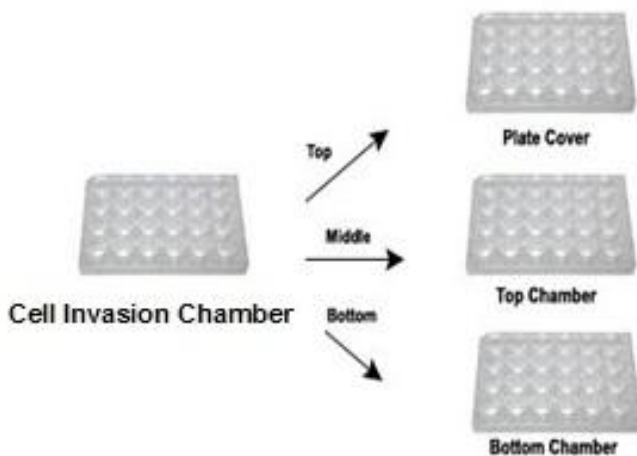

Figure 1. Cell Invasion plate: The cells are added to the Top Chamber and the Control Invasion Inducer or chemoattractant are added to the Bottom Chamber.
6. Under sterile conditions, disassemble the Cell Migration Chamber, 12-inserts (5 µm) (Figure 1) and carefully remove the plate cover and the top chamber.